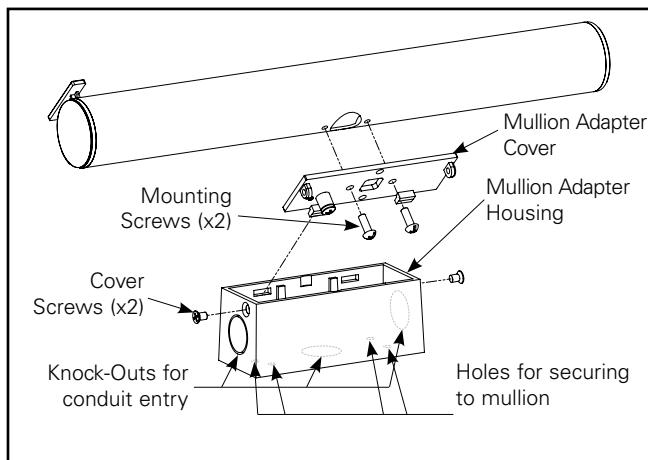

Figure 7.
2. Open the box containing your Mullion Adapter Assembly and unpack the unit. Disassemble the unit by removing the Cover Screws on either side of the Mullion Adapter Housing. (See Figure 7)